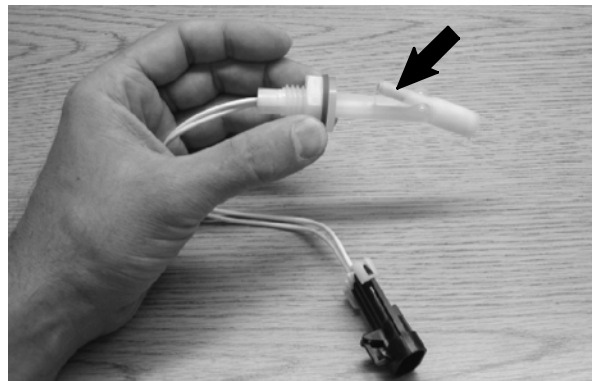
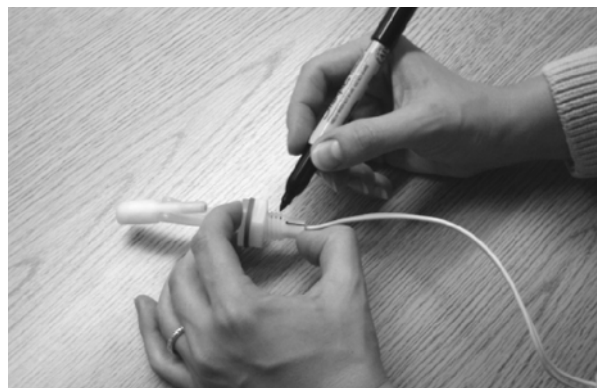

FIG. 3-Orient Liquid Level Sensor
FIG. 4-Draw Line On The Threads
5. Hold the liquid level sensor oriented in mounting position and use a black permanent marker to draw a line down the top of the threads. Refer to Fig. 3 and Fig. 4.